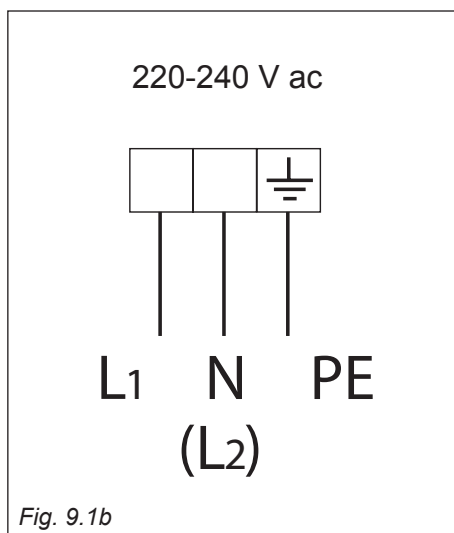

Fig. 9.1b
- Connect the wires to the terminal block “B” as shown in the diagram in figure 9.1b.